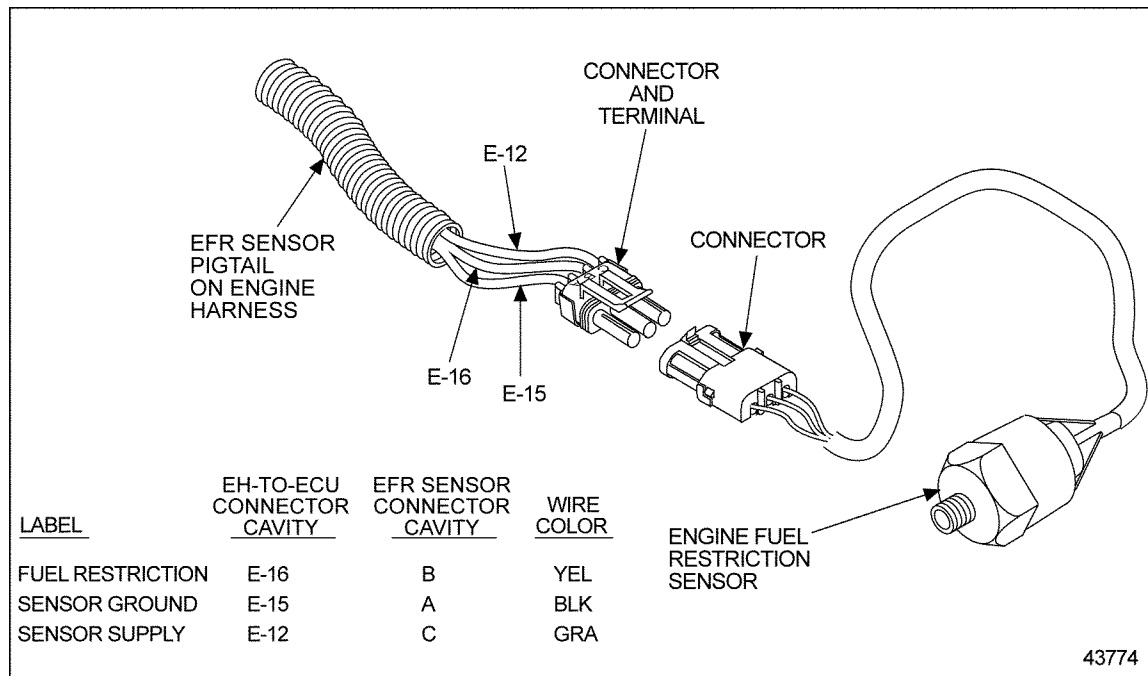

Figure 41-2 FRS/Fuel Restriction Sensor
2. Disconnect FRS/Fuel Restriction Sensor connector and install a jumper wire between sockets B and C of the FRS/Fuel Restriction Sensor harness connector. See Figure 41-2.
6. Inspect terminals at the FRS/Fuel Restriction Sensor connectors (both the sensor and harness side) for damage: bent, corroded, and unseated pins or sockets. See Figure 41-2.